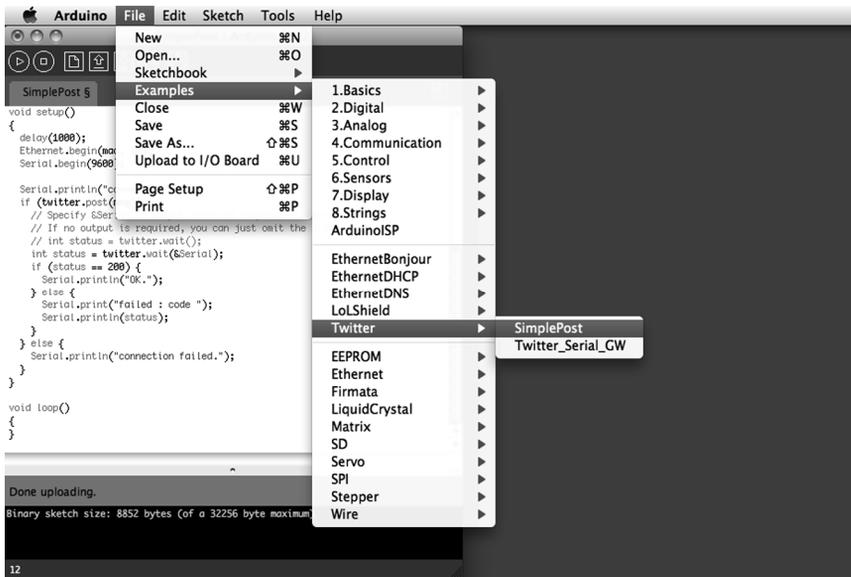

Figure 11-2. *Twitter library example*
With that in hand, we need to plug it into the Arduino and connect it to our network using an Ethernet cable. Next up, we need to install two of the four Arduino libraries, available from the earlier link, used in this application: Twitter and EthernetDNS. The other two libraries, SPI and Ethernet, come with Arduino versions 0019 and newer. Next up, we can start with the example sketch, SimplePost, included with the Twitter library and shown in Figure 11-2.
■ **Note** You might have noticed that we’re using the 0022 version of Arduino in Figure 11-2. At the time of this writing, the Twitter library did not play nice with the 1.0 beta but the Arduino developers are working hard and I’m sure this will be fixed by the time this book is published.